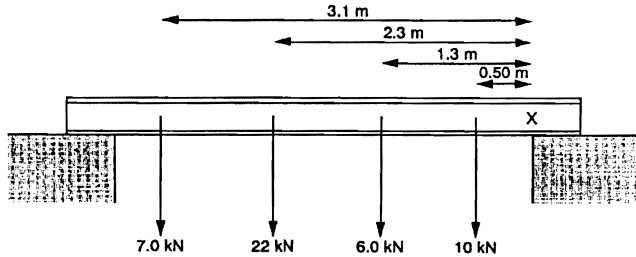

Fig. 56
(c) A steel beam, loaded uniformly as in Fig. 56, is allowed to sag by a maximum of $1/360$ of the gap it is spanning. A particular beam is used to carry a load of 33 000 N and to span a gap of 4.20 m. A quantity B , known as the bending moment for this loading pattern is given by
- (d) A beam across a gap is shown in Fig. 56, together with values of the forces acting and their distances from X.